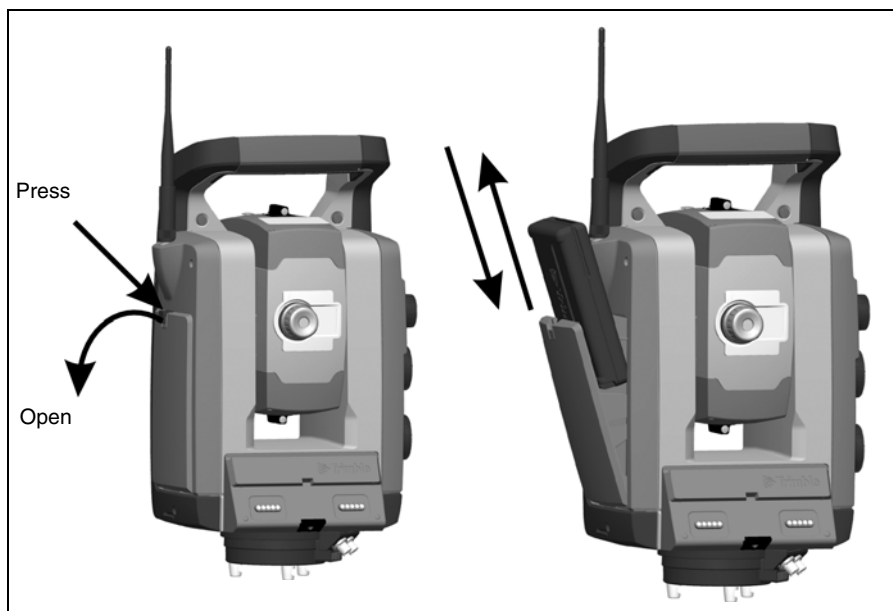

Figure 3.12 Removing and replacing the internal battery
2. Slide the battery into the battery compartment with the battery connectors positioned towards the top of the instrument. See figure 3.12